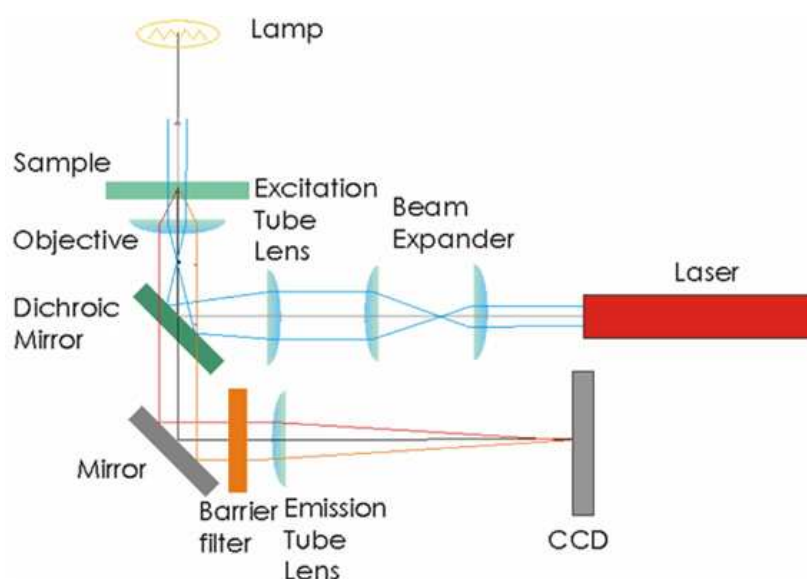

Figure 1: Rough schematic showing white light and fluorescence light paths for imaging the specimen plane. Not drawn to scale.
To start, familiarize yourself with the optomechanical components that you will use as the building blocks for optical construction. Figure 1 provides a general scheme for the microscope geometry, but you will not be provided with a detailed schematic for how to put everything together. You are on your own! Spend some time on trial-and-error exploration.
We have two pieces of optics to help us do this. Take a look at Figure 1 for the roles they play in the microscope layout. Note that the barrier filter is key for high-sensitivity fluorescence imaging, and will not significantly impact white-light imaging.
- A rough schematic of the microscope geometry is shown in Figure 1.